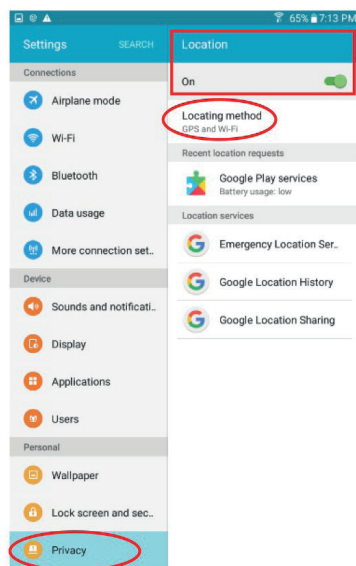

Figure 10: Samsung Galaxy Tab A Settings - turning Location “On”
1. Once the KoBoCollect app has been installed, access the “Settings” tab for the tablet. Click on “Privacy” and switch “Location” On. (Figure 10)